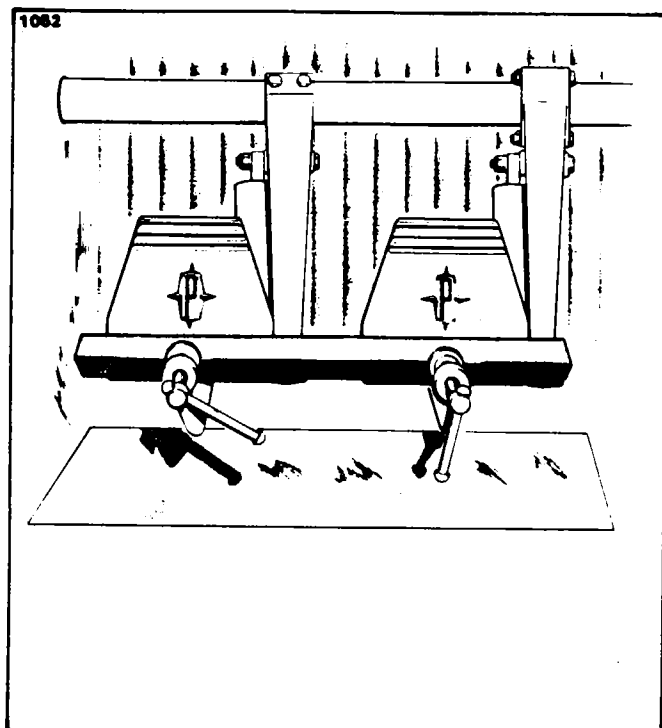

Figure 27-15. Clamping Rudder Pedals
- A. Clamp the rudder pedals to align in a lateral position as shown in Figure 27-15.